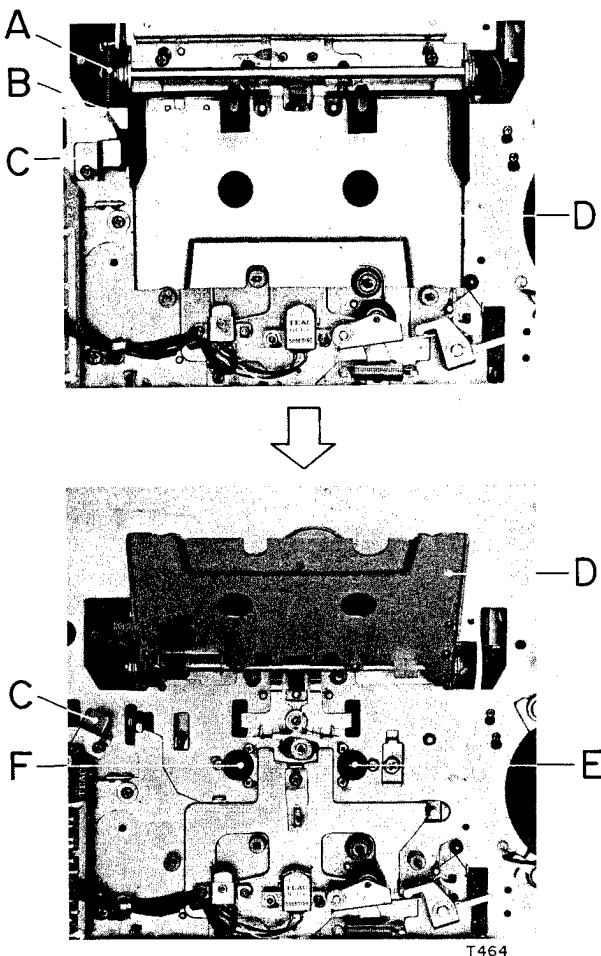
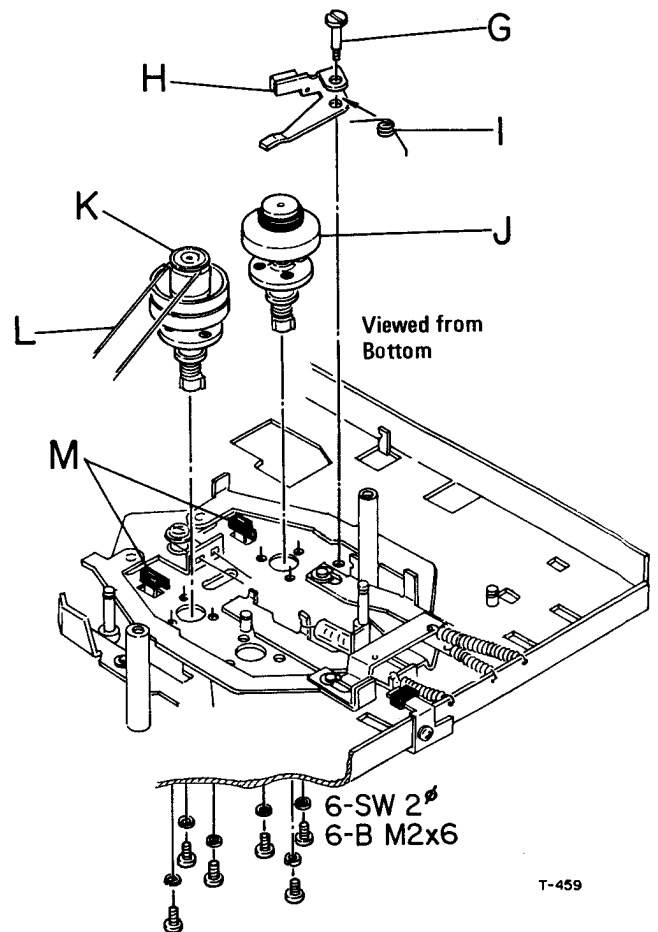

Fig. 3-8 Rotation of Cassette Holder
Fig. 3-9 Reel Tables Replacement
2. See Fig. 3-8 for step 2 to 4. Remove the Spring (A) from the hook (B) of the Cassette Holder (D).
3. Loosen the screw on the Stopper Bracket (C) and then partially turn the Bracket in the direction indicated by the arrow.
7. See Fig. 3-9 for step 7 to 9. When only the Supply Reel Table (J) is to be removed, first take out the Back
8. For Detaching the Take-up Reel Table (K), first take out the Large Counter Belt (L).
9. Take off the screws mounting the Reel Table which requires replacement; next, with the PLAY key depressed to release the Brake Shoes (M) from the Reel Tables, pull out the table.